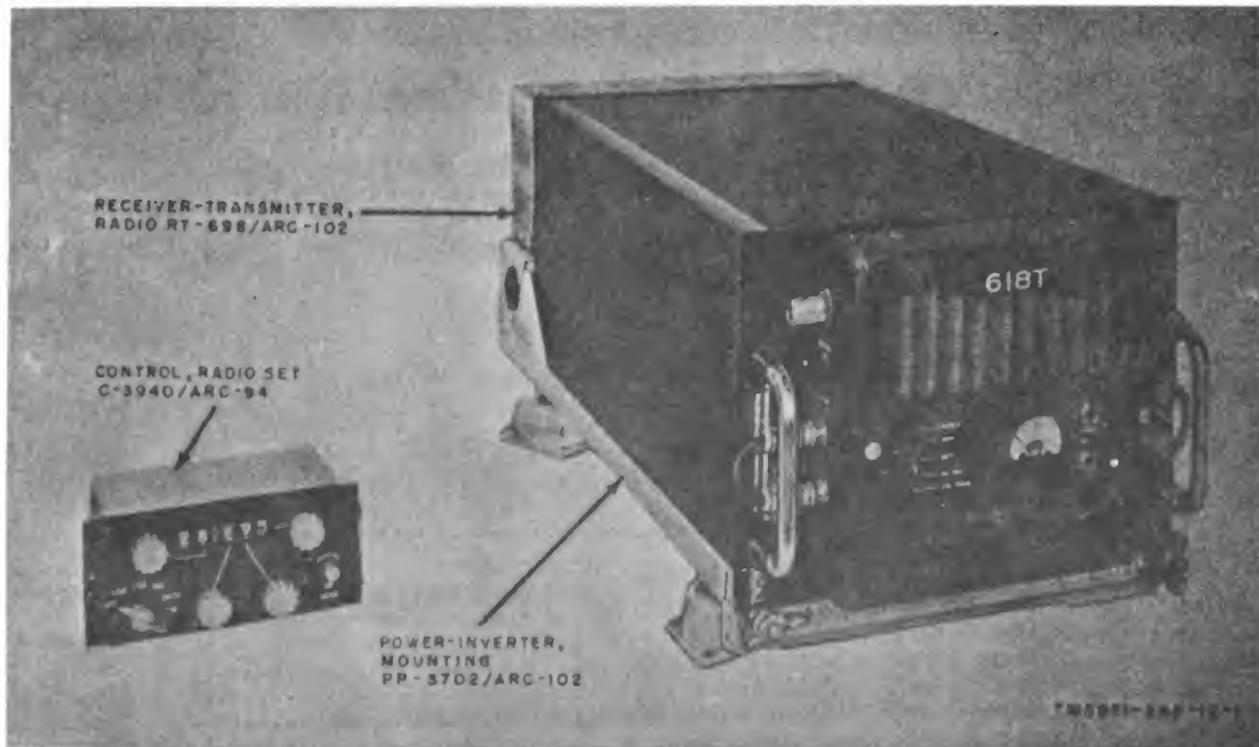

Figure 1. Radio Set AN/ARC-102.
This manual describes Radio Set AN/ARC-102 (fig. 1) and covers its operation and second echelon maintenance. It includes operation, cleaning and inspection of the equipment, and replacement of parts available to second echelon maintenance.
#### 4. Purpose and Use (fig. 1)
**6. Components of Radio Set AN/ARC-102 (fig. 1)**
a. The radio set (fig. 1) consists of a receiver-transmitter, a control unit, and a mounting. The interconnecting cables to which the components are connected are supplied as part of the aircraft in which the equipment is installed.